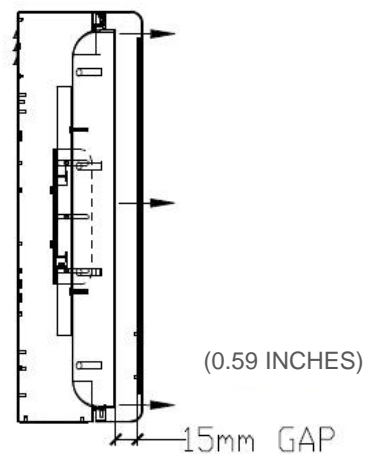

Figure 6
STEP 12: A gap of 15mm must exist between the air curtain and the enclosure window, any less and you risk insufficient cooling to keep the display working (Figure 6)